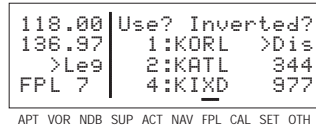

Figure 4-121
- Press **ENT** to load the active flight plan into this numbered flight plan (figure 4-121).